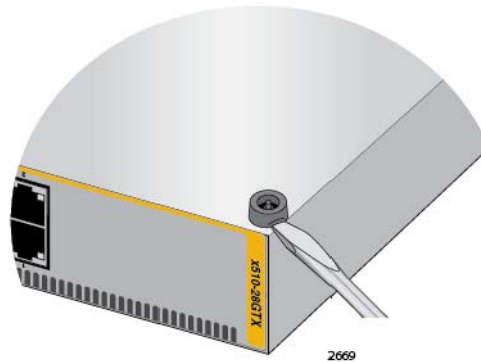

Figure 17. Removing the Rubber Feet
2. Using a flat-head screwdriver, pry the rubber feet from the bottom of the switch, as shown in Figure 17.